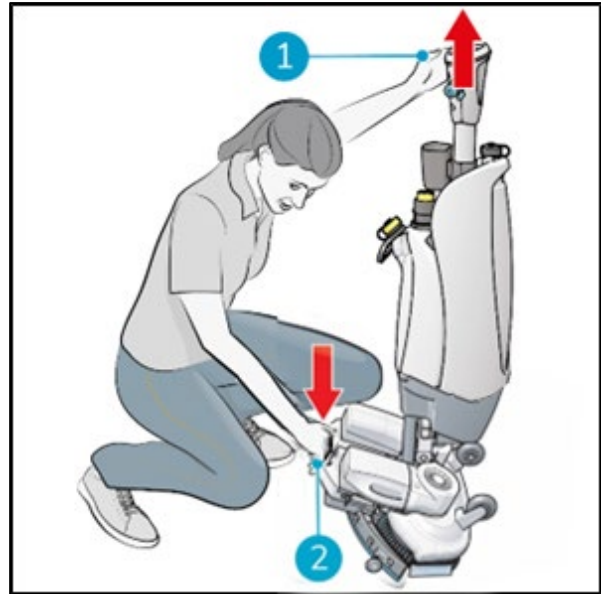

Figure 18
1. Crouch down while holding the scrub deck firmly with one hand (Figure 18, pos 2).
2. Push the handle forward with your other hand (Figure 18, pos 1).